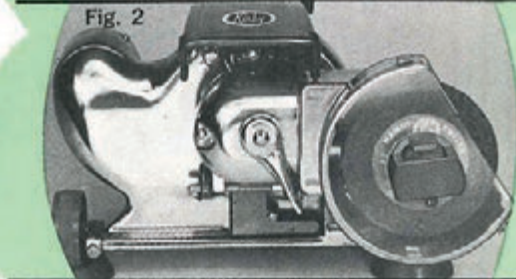
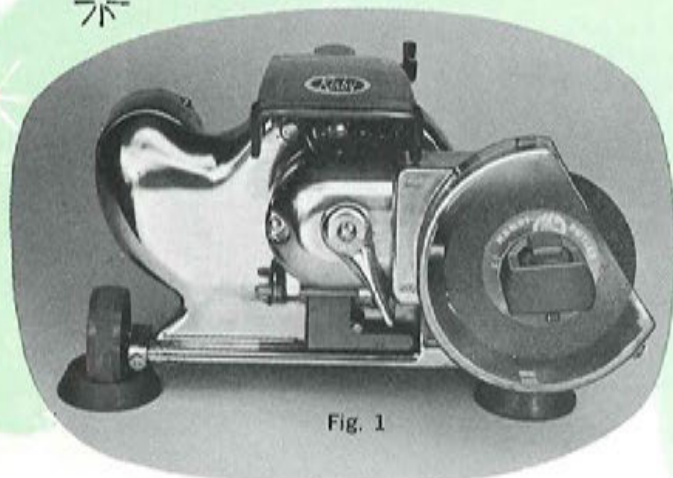

Fig. 3
Fig. 1
As the first step in lifting the belt for attachment, turn the name plate so the lever arm is upright. (See Figure 4). Then look through the round opening at the back of the nozzle and make certain that the belt is standing upright in the center of the brush. Also check the position of the belt on the brush roll by looking at the bottom of the nozzle. It should be in the center. Then turn the name plate counter-clockwise until it stops in position as illustrated in Figure 3. This is the "OFF" position. When the belt is new, it will take a firm pressure to complete the turn. In turning the Belt Lifter to the "OFF" position you automatically pick up the belt on the metal finger and lift it so the Belt Drive Shaft can pass through the loop. (See Figure 1). Your nozzle is now ready for attachment to the motor unit (see page 16). Once it is attached turn the name plate clockwise so the lever arm is again upright. This is the "ON" position and the belt will be properly in place on the Belt Drive Shaft.
**STEP 3:** Place Attaching Slots at back of Rug Nozzle on the Attaching Bar. (see figures 1 and 2). Swing nozzle back toward Motor Unit with a slight downward pressure so as to depress the Safety Switch Slide (see figure 2). Hold nozzle in place with one hand and lock in place with Attachment Lock Lever at top-front of Motor Unit. (see figure 3).
Remove the rug nozzle and Sani Em-Tor and bag from the Kirby. The renovator tray attaches to the nozzle assembly (figure 1) by sliding the renovator tray into the slots at each end of the nozzle assembly. Turn the belt lifter to the "off" position and attach the renovator nozzle to the front of the Kirby motor unit the same way you attached the rug nozzle. (See Upright assembly instructions page 16.)